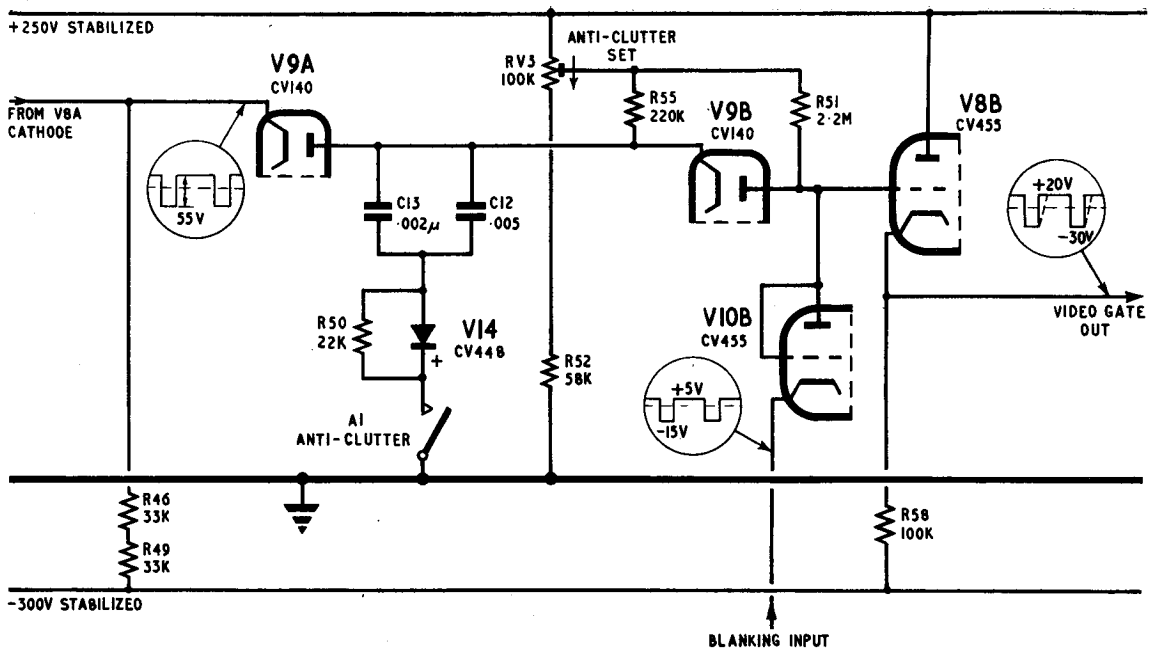

Fig. 8. Video gate generator
29. The video gating wave generator includes the double-diode V9 (CV140), the germanium diode V14 (CV448), the triode V8B (one half of a CV455) and the triode V10B (one half of a CV455 but strapped as a diode). A simplified circuit diagram of the arrangement is shown in fig. 8. Its purpose is to accept the radar bright-up wave (from the R.B.U. amplifier stages) and the blanking wave which comes in at SK7 from the blanking unit Type 26, and to produce from these the video gating wave for application to the video amplifier. The circuit contains an optional anti-clutter facility which, when switched on, provides a sloping edge at the beginning of the video gating wave and so reduces the trace brightness over the first few miles of the scan; this facility helps to eliminate the disturbing effect of short-range ground returns.